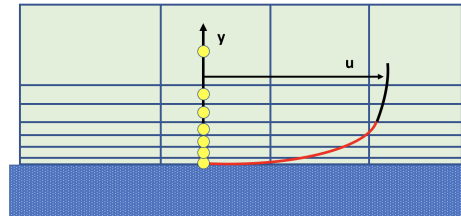

Figure 2: Full resolution approach.
- One way is to **integrate the turbulence to the wall**. Turbulence models are modified to enable the viscosity-affected region to be resolved with all the mesh down to the wall, including the Viscous sublayer. This approach is used when we are interested in the forces of the wall and with high Reynolds numbers (figure 2).